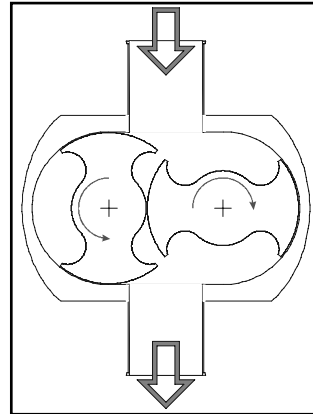

Figure 9. Direction of rotation - viewed from pump head. (Principles applies to all mounting orientations)
- Motor is wired for correct direction of rotation - see Figure 9.